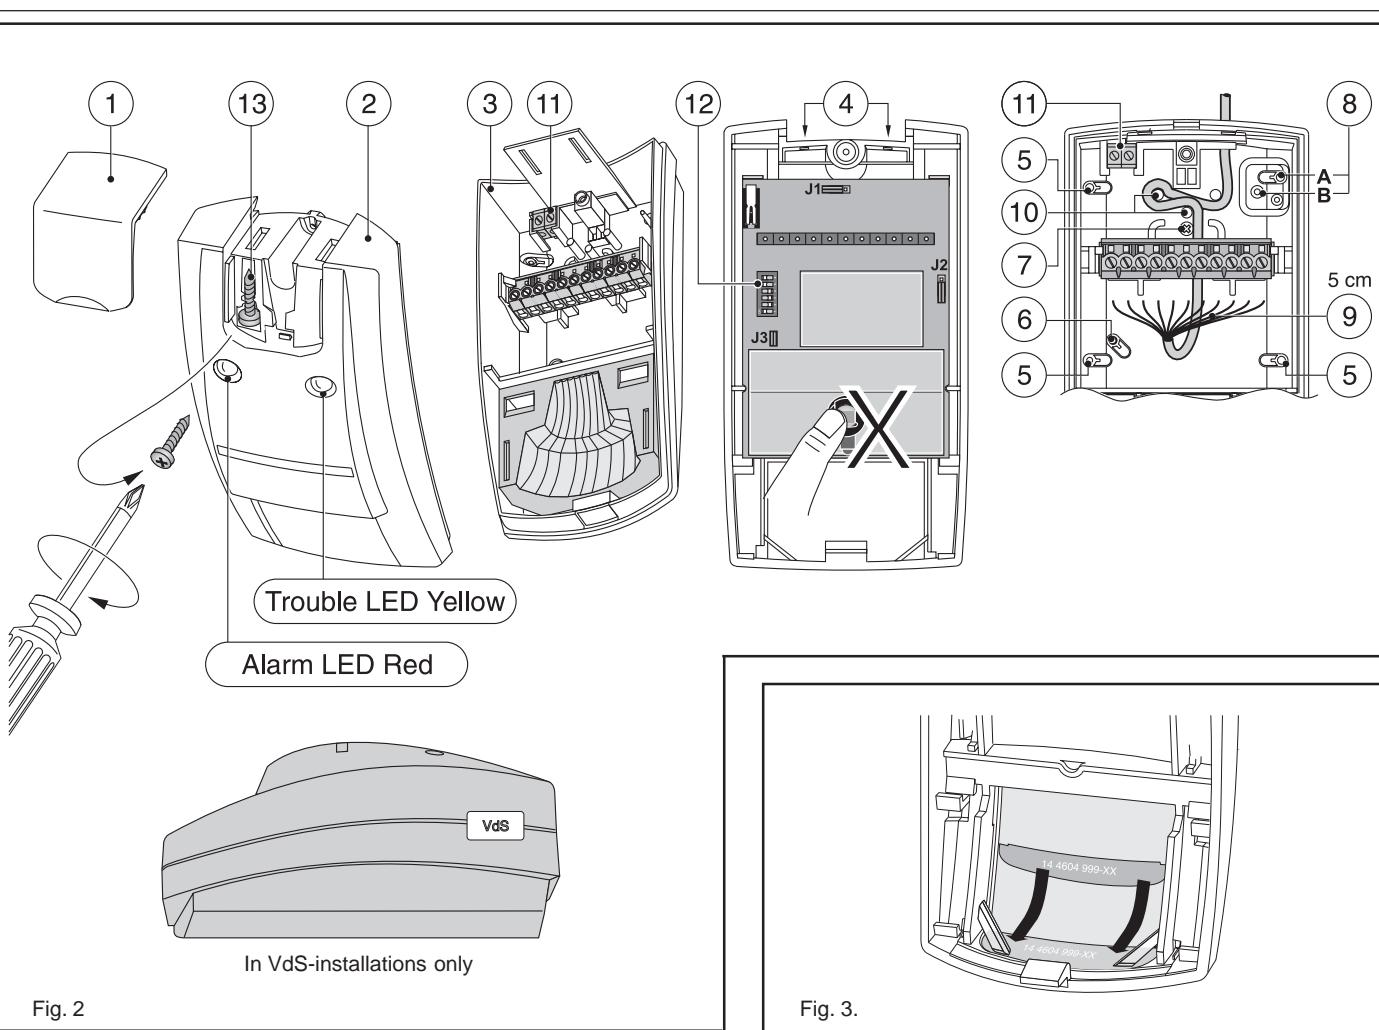

Fig. 2
3. Break out one or both cable entry hole(s) ④ as required (Fig. 2).
5. Select mounting holes for corner ⑤ or flat wall ⑥ mounting (Fig. 2).
- Mounting hole for swivelbracket ⑦ (Fig. 2).
- Mounting hole(s) for pry-off tamper ⑧ (Fig. 2) must always be used either for corner (⑨A) or flat wall (⑨B) mounting.
8. Strip cable for 5 cm ⑩ and pull it through the cable entry hole(s) ④ and strain relief ⑪ (Fig. 2).
- Optional spare terminal ⑫ (Fig. 2).
- 10 Close the detector ② & ③, insert screw ⑬ and replace cover plate ① (Fig. 2).)